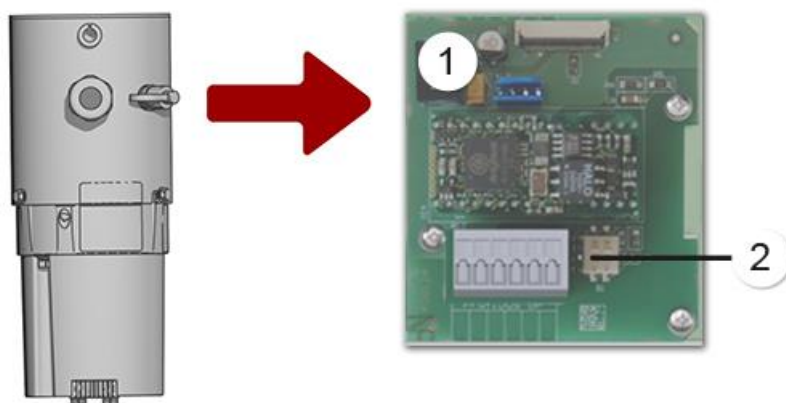

Figure 7: Overview of the Profibus DP module in the FireGuard 2 Integral
- If the photometer is used as a terminal device, DIL switch S2/1 must be switched ON on the Profibus module (Figure 7, pos. 2). The electronics housing must be removed according to the Section 5.6 in order to set the DIL switches.